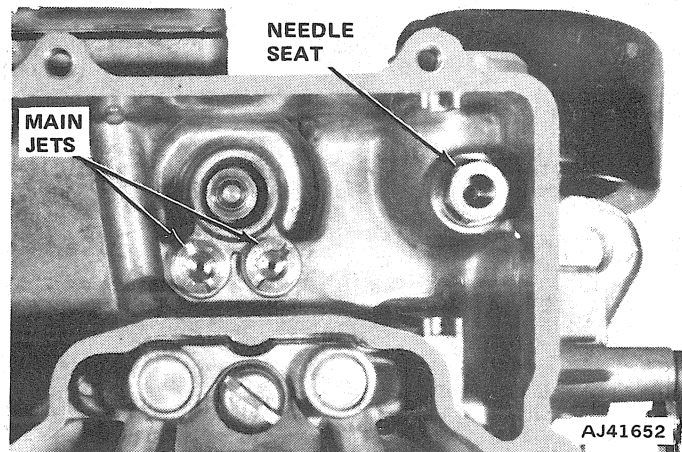

Fig. 1J-126 Interior View of Fuel Bowl
(15) Remove accelerator pump discharge screw, air distribution plate, booster venturi and gasket (fig. 1J-127). Do not attempt to remove tubes from venturi assembly. Invert main body and catch accelerator pump discharge weight and ball.
(16) Disconnect accelerator pump operating rod from overtravel lever. Remove rod and retainer.